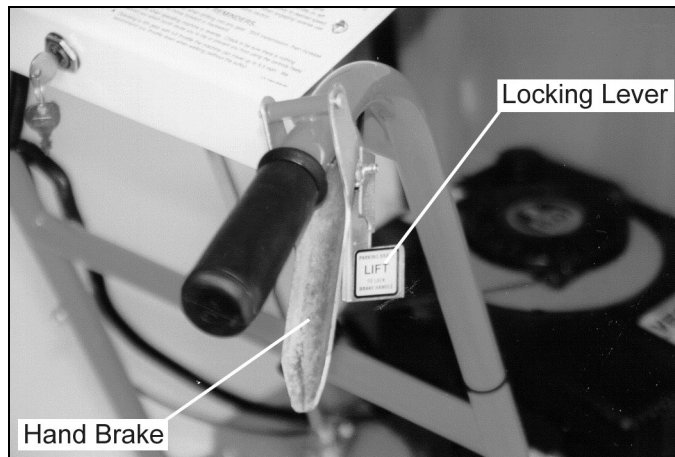

Figure 6
- Set the parking brake. The hand brake on the right handlebar is equipped with a lever to lock it in the ON position. When the hand brake is locked ON, it functions as the parking brake (*Figure 6*).